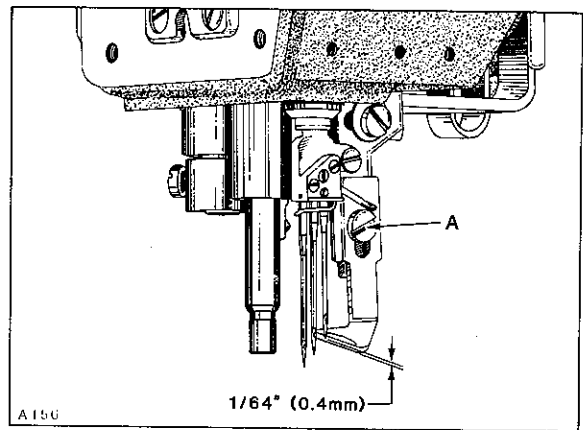

Fig. 26
With needle bar at TOP of stroke, height of stationary spreader thread guide should be positioned with its UNDERSIDE PORTION (laterally in line with needles) $1/64$ inch (0.4mm) below the TIP OF RIGHT needle as shown in Figure 26. Adjustment can be made by loosening screw (A), reposition as required...